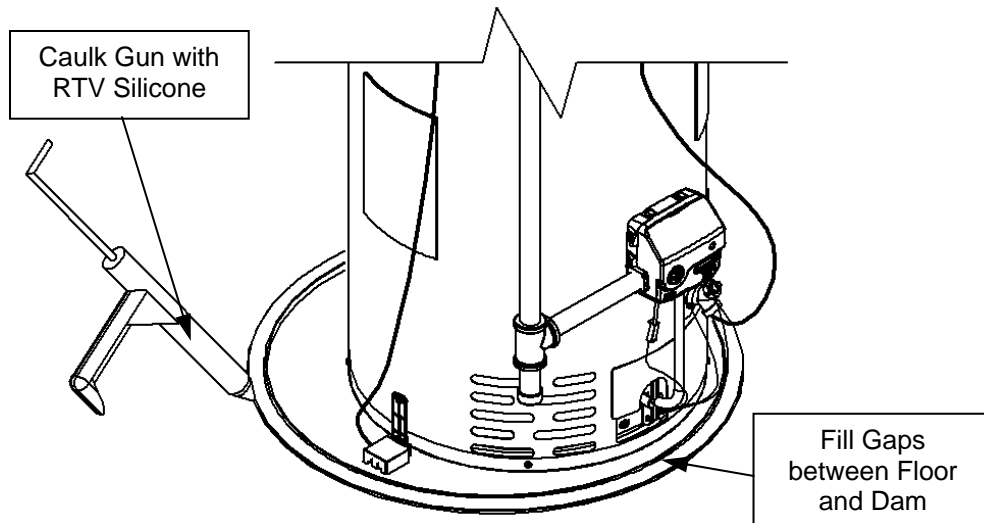

Figure 69
Step 18: Fill in any gaps between the dam and the floor. This is shown in Figure 69.